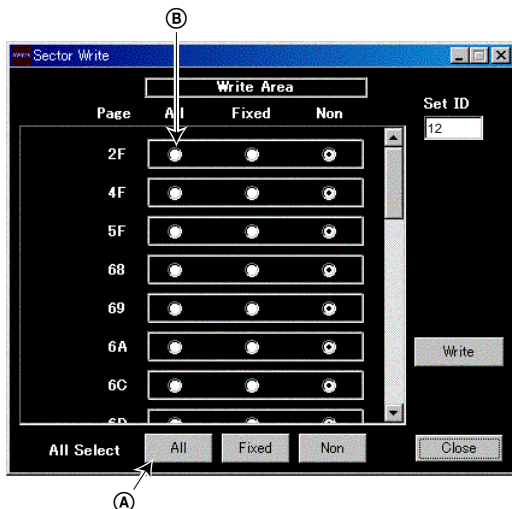

Fig. 6-1-62
- 4) Click **All** of the ALL SELECT buttons to select all pages. (Fig. 6-1-62 (A))
- 4) Click "All" of the option buttons of target page. (Fig. 6-1-62 (B))